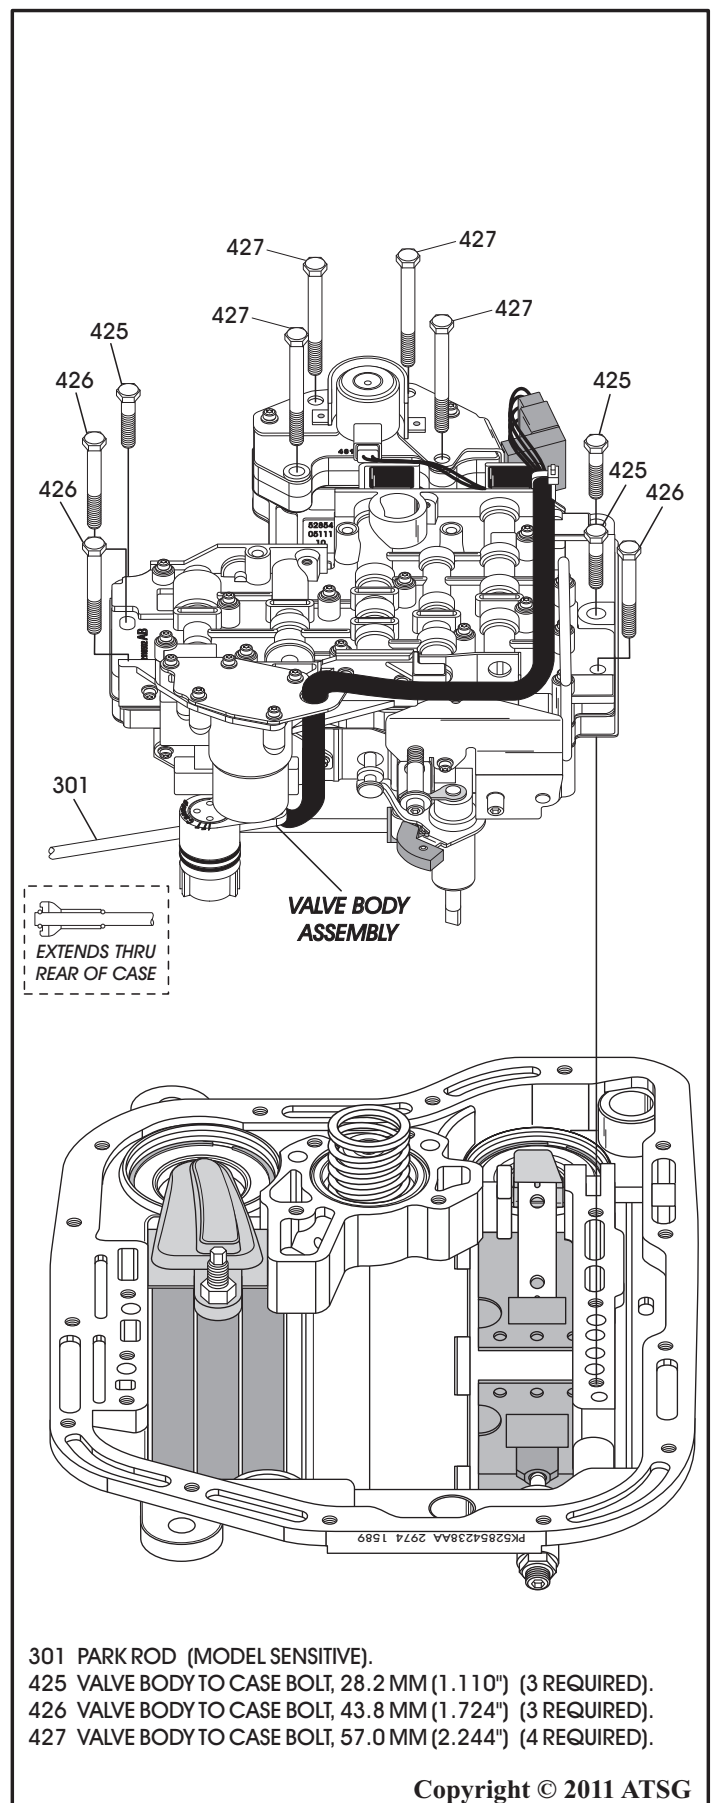

Figure 71
26. Remove the 10 valve body to case bolts, as shown in Figure 71.
Note: Length and locations are shown in Figure 71.
27. Remove the valve body assembly from case by pushing on case connector, and at same time lifting up on valve body (See Figure 71).